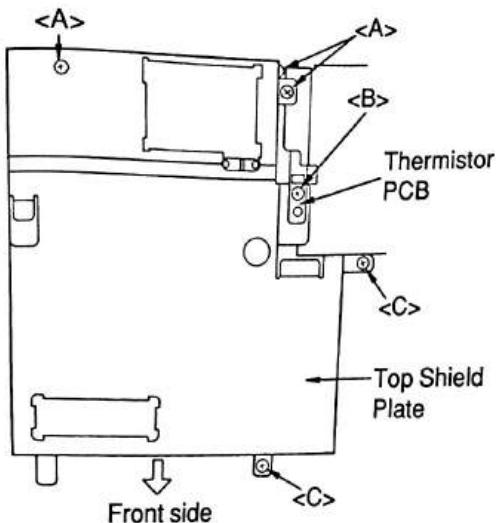

Figure 13
(1) After removing the keyboard, remove three screws <A> (machine screw, 3Øx6) on the top shield plate, one screw  (machine screw, 3Øx6) on the thermistor PCB and two screws <C> (tapping screw, 3Øx8) on the top shield plate as shown in Figure 13.
(2) Lift up the top shield plate.